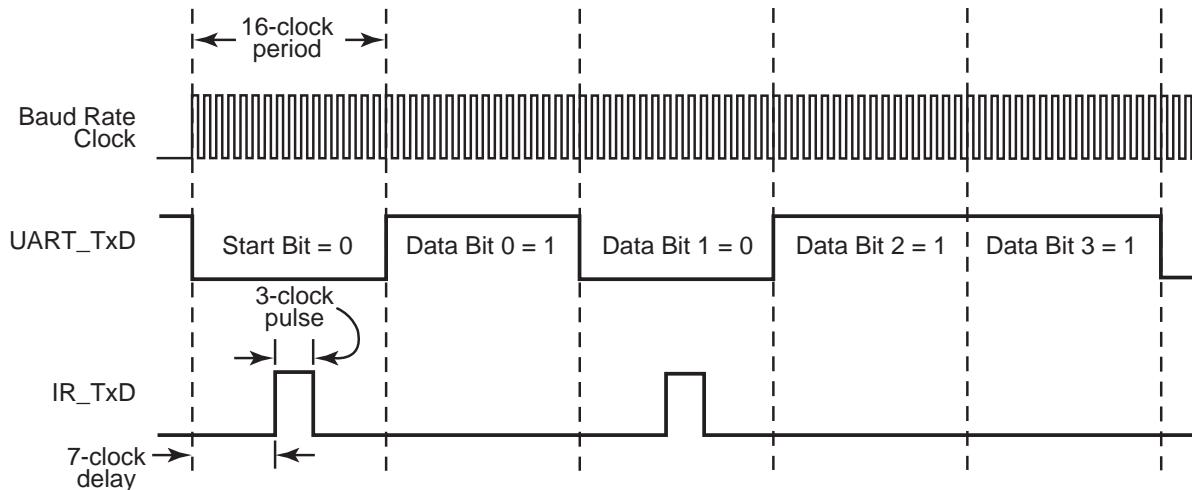

Figure 25. Infrared Data Transmission
The data to be transmitted via the IR transceiver is first sent to UART0. The UART transmit signal (TxTxD) and Baud Rate Clock are used by the infrared encoder/decoder to generate the modulation signal (IR_TxD) that drives the infrared transceiver. Each UART bit is 16-clocks wide. If the data to be transmitted is a logical 1 (High), the IR_TxD signal remains Low (0) for the full 16-clock period. If the data to be transmitted is a logical 0, a 3-clock High (1) pulse is output following a 7-clock Low (0) period. Following the 3-clock High pulse, a 6-clock Low pulse completes the full 16-clock data period. Data transmission is illustrated in Figure 25. During data transmission, the IR receive function should be disabled by clearing the IR_RXEN bit in the IR_CTL reg to 0. This prevents transmitter to receiver cross-talk.